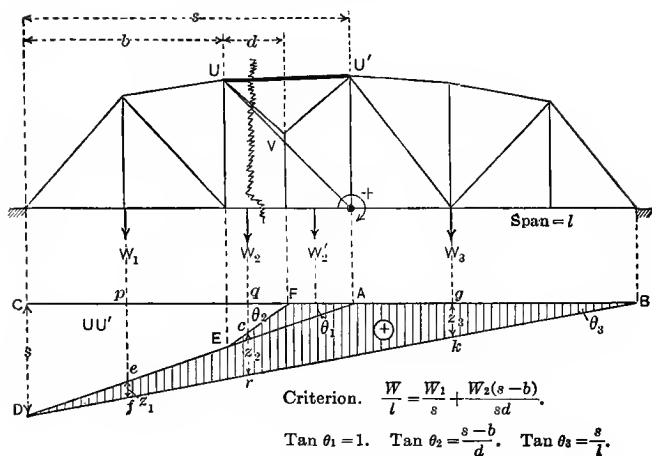

FIG. 16.
**Top Chord of Sub-hanger Truss.**—Referring to the explanations given for Fig. 14, the horizontal projection of  $UV$ , Fig. 16, is taken as the length of the *cut stringer* and the influence diagram constructed according to the general rule.